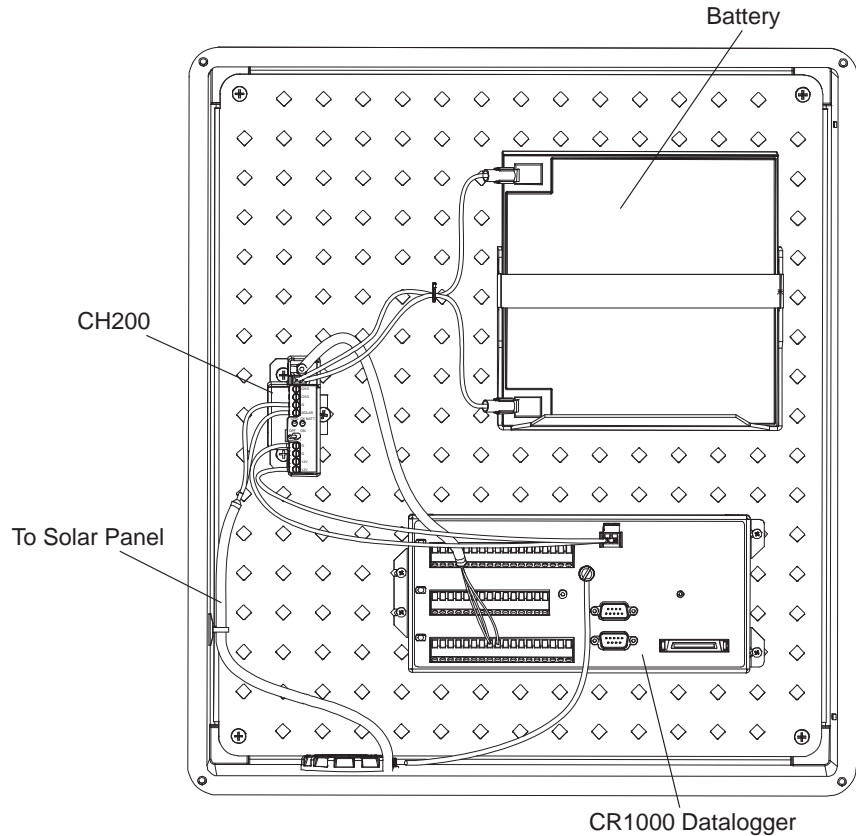

FIGURE 3-17. CH200 wired to solar panel, CR1000, and battery
1. Using the supplied mounting hardware, install the CH200 on the mounting plate of an environmental enclosure (see FIGURE 3-17). Verify the On/Off switch is in the 'Off' position.